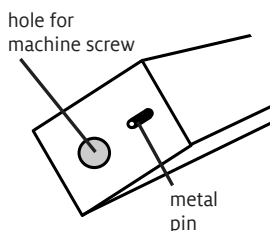

FIGURE 5: TREADLE SUPPORT
**10.** Attach the inside leg height extender blocks to the treadle assembly: insert the metal pins from the treadle support (Figure 5) into the small holes and the metal treadle bar ends into the 2nd hole from the bottom of the height extender blocks. Insert the barrel nuts from Step 6 into the treadle support and thread new 1/4-20 x 2-1/2" Phillips truss head machine screws into them, from the outer side of the height extender blocks through the bottom holes. Use a slotted screwdriver to hold the barrel nut in position. Secure the treadle support firmly.